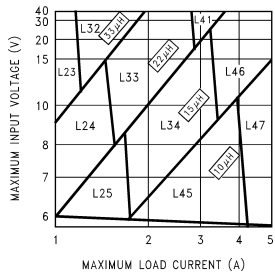
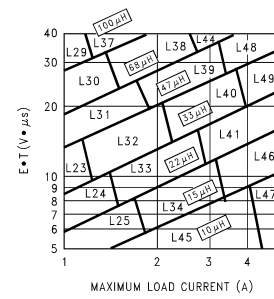

Figure 21. LM2677-3.3
Figure 24. LM2677-ADJ
Step 3: Determine the inductor required by using one of the four nomographs, Figure 21 through Figure 24. Inductor Manufacturer Part Numbers provides a specific manufacturer and part number for the inductor.
Step 5: Determine an input capacitor from Table 7 for fixed output voltage applications. Use Table 3 to find the specific capacitor type. For adjustable output circuits select a capacitor from Table 3 with a sufficient working voltage (WV) rating greater than $V_{in\ max}$, and an rms current rating greater than one-half the maximum load current (2 or more capacitors in parallel may be required).
Step 3: Use the nomograph for the 3.3V device, Figure 21. The intersection of the 16V horizontal line ($V_{in\ max}$) and the 2.5A vertical line ($I_{load\ max}$) indicates that L33, a 22 μ H inductor, is required.
Step 3: To use the nomograph for the adjustable device, Figure 24, requires a calculation of the inductor Volt•microsecond constant (E•T expressed in V•μS) from the following formula:
Using Figure 24, the intersection of 27V•μS horizontally and the 2A vertical line (I_{load} max) indicates that L38, a 68μH inductor, should be used.
Important Note: When using the adjustable device in low voltage applications (less than 3V output), if the nomograph, Figure 24, selects an inductance of 22μH or less, Table 10 does not provide an output capacitor solution. With these conditions the number of output capacitors required for stable operation becomes impractical. It is recommended to use either a 33μH or 47μH inductor and the output capacitors from Table 10.